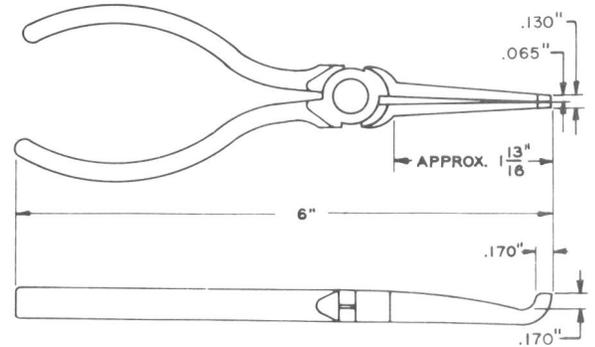

Fig. 10—KS-14441 Offset Pliers
2.10 KS-14441: The KS-14441 tools are offset pliers (Fig. 10) used in replacing tips of worn contact springs of sequence switches.